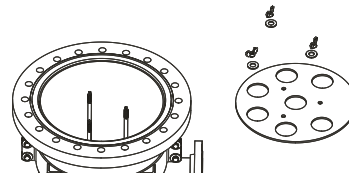

Figure 15.
5. Remove the wing nuts and washers from the cartridge hold-down plate, Figure 15.